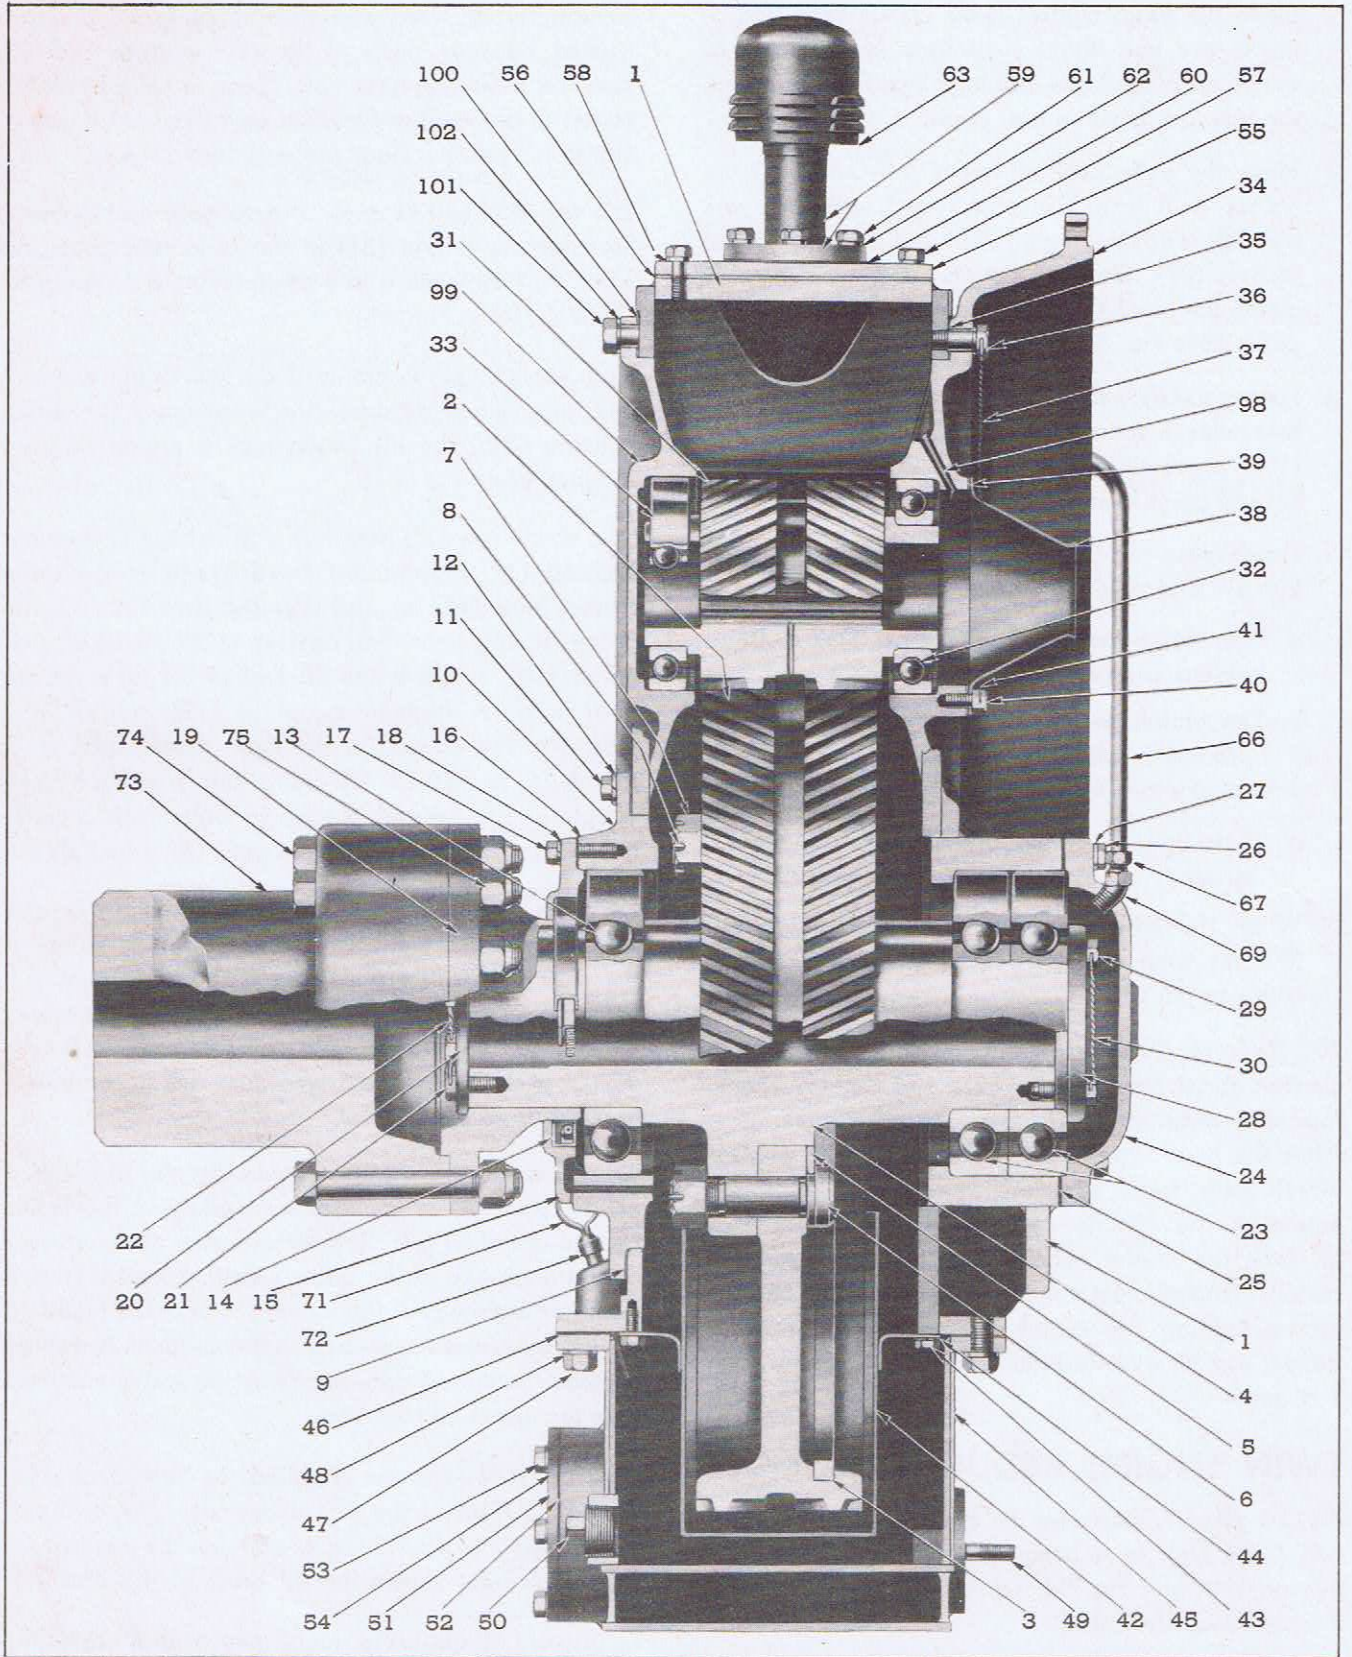

FIG. 54—TWIN ENGINE REDUCTION GEAR ASSEMBLY.
Fig. 10, page 7, illustrates the application of a Reduction Gear Unit to a twin, six-cylinder Marine Propulsion Unit and Fig. 54 the construction of the Reduction Gear Unit itself.
The splined shaft of each reverse gear unit drives a herringbone pinion (31) of the reduction gear unit which in turn mesh with a common main driven gear (2) as shown in Fig. 54.
← FIG. 54—TWIN ENGINE REDUCTION GEAR ASSEMBLY.